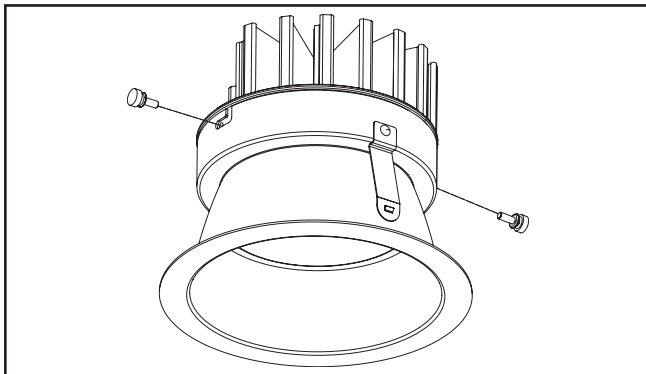

Figure 7.
- Using provided thumb screws, securely attach lower trim to LED engine (Figure 7.).